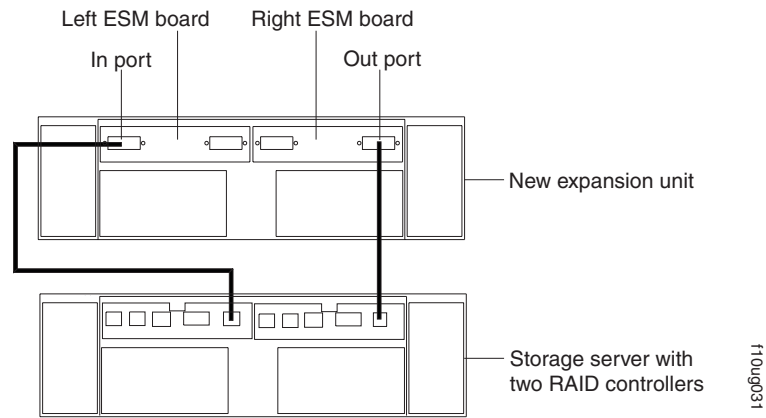

Figure 53. Adding an expansion unit
2. Use the following procedure and Figure 53 on page 59 to connect a single expansion unit to the storage server: